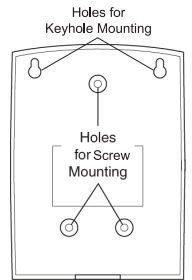

Figure 6 - Mounting
- Using keyholes on back of chime base, hang base on screws (see Figure 6).
- Use chime holes as a template (see Figure 6). Drill three 7/32" diameter pilot holes for wall anchors (provided) and insert anchors.